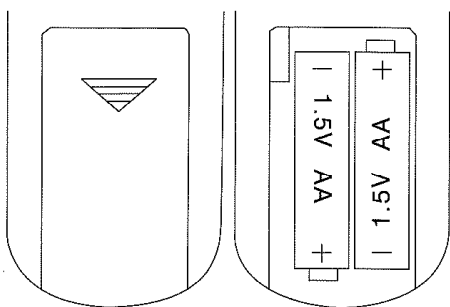
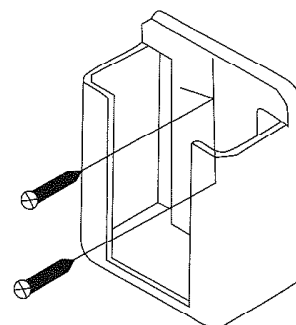

Fig. 3
Fig. 4
3. To change the batteries in the remote open the battery compartment by pressing on the lid with your finger and thumb in the direction of the arrow. (powered by two 1.5V batteries / AA type). (Fig. 3). You can install the remote support, fixing it with two screws. (Fig. 4)